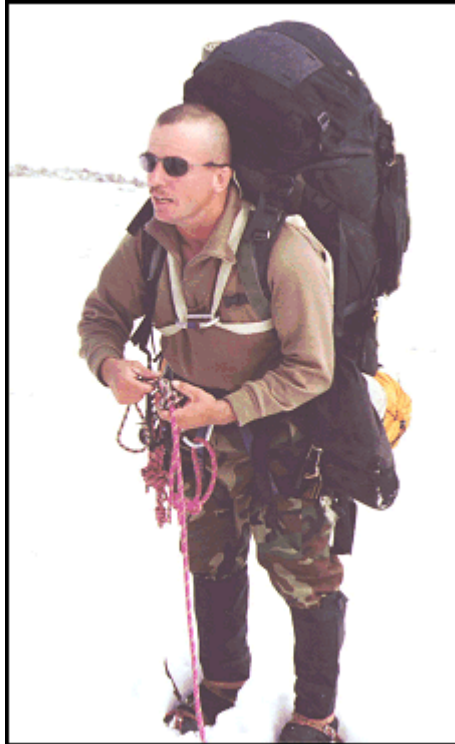

Figure 10-25. Preparations for roped movement.
c. **Roped Movement.** The first rule for movement on glaciers is to rope up (Figure 10-25). A roped team of two, while ideal for rock climbing, is at a disadvantage on a snow-covered glacier. The best combination is a three-man rope team. Generally, the rope team members will move at the same time with the rope fully extended and reasonably tight between individuals, their security being the team arrest. If an individual should break through a snow bridge and fall into a crevasse, the other members immediately perform self-arrest, halting the fall. At points of obvious weakness in the snow bridges, the members may decide to belay each other across the crevasse using one of the established belay techniques.